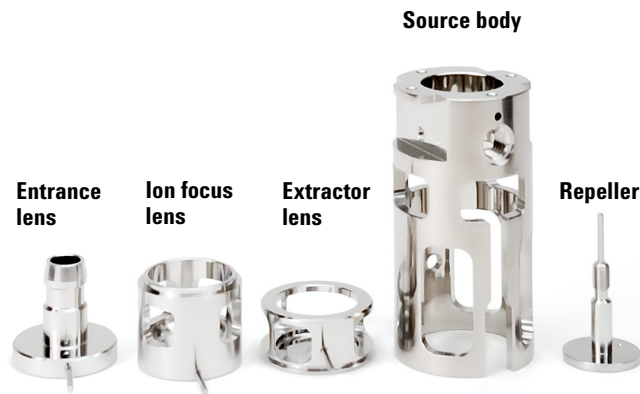

Figure 24 EI Source parts to be cleaned
- 2 Collect the following parts to be cleaned if you are cleaning an EI ion source: (Figure 24)